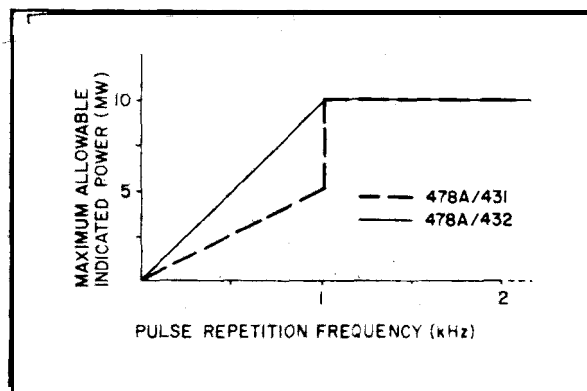

Figure 1. Maximum Power Meter Reading vs PRF for Pulses Shorter than 250 μ s
14. PULSE ENERGY AND PEAK POWER FOR 478A 432 COMBINATION. For pulses shorter than 250 μ s, energy per pulse must not exceed 10 W- μ s and peak power should never exceed 200 watts. (For example, a 40 mW, 250 μ s pulse contains 10 W- μ s of energy.) Pulses longer than 250 μ s are allowed to contain more energy but peak power must not exceed 40 mW. Figures 1 and 2 interpret these limits in graphical form. (For lack of space, the mount nameplate lists only a 5 W- μ s
15. PULSE ENERGY AND PEAK POWER FOR 478A/431 COMBINATION. The limitations of this combination are basically the same as the 478A 432 with the exception that at pulse repetition rates less than 1 kHz, energy per pulse must not exceed 5 W-U's and peak power must not exceed 10 mW. These limits are also interpreted in Figures 1 and 2.